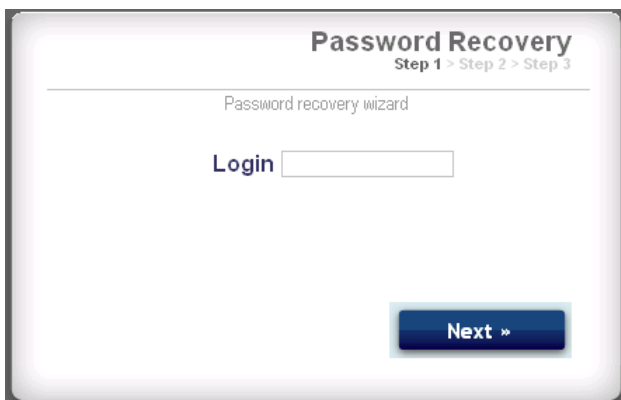

FIG. 44. Password Recovery Step 1
2. See FIG. 44. The system will prompt you for your login name. Type in the name you entered in step 5 on page 23, then click Next.